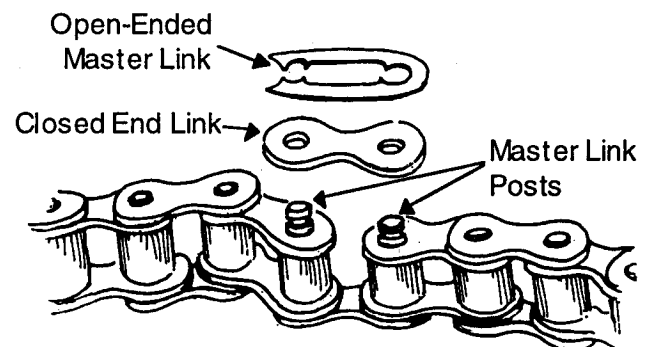

Figure 20
2. Slide the drive box forward, and with a screwdriver remove the master link from the old chain (*Figure 20*). Take the old chain off.
4. Connect the chain together, add the closed end link, then slide on the open-ended master link and snap it in place (*Figure 20*).